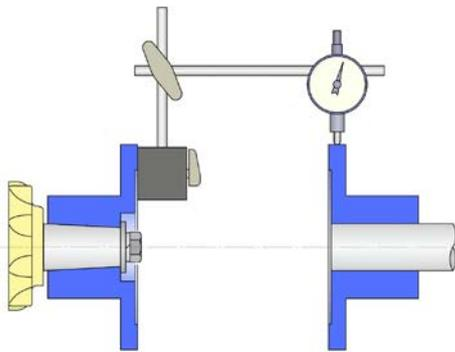

Fig.5.1 Shaft eccentricity
1) Eccentricity (Refer to Fig. 5.1)